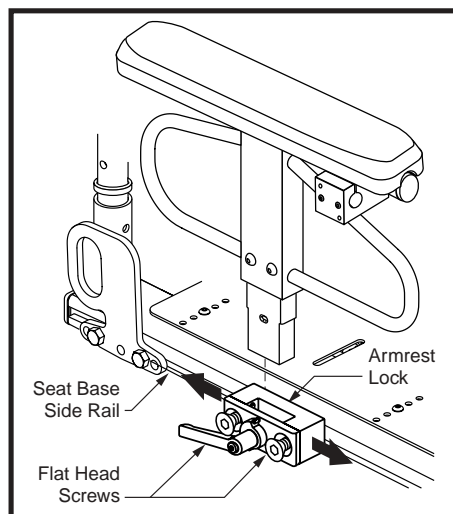

Figure 15. Heavy Duty Drop-In Armrest Position Adjustment
2. Loosen the flat head screws that fasten the armrest lock to the seat base side rail. See figure 15.
5. Install the armrest in the armrest lock and rotate the lock lever forward. See figure 15.